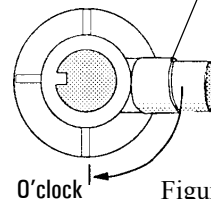

Figure 6.
11. With the inlet port of the fitting body in the 3 O'clock position, place the fitting body against the threads of the flange and keeping the inlet port in the 3 O'clock position; see Figure 6. Hand tighten the flange as tight as possible. Rotate the flange, not the body.
12. To complete the tightening process, hold the flange in place and rotate the fitting body until the inlet port is in the 6 o'clock position; see Figure 6.